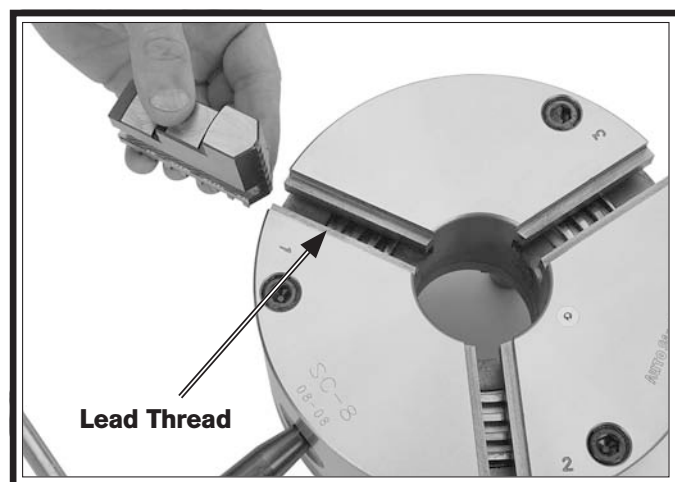

Figure 51. Inserting jaw guide #1.
6. Rotate the chuck key clockwise until you see the tip of the scroll gear lead thread just begin to enter jaw guide #1 (see **Figure 51**).